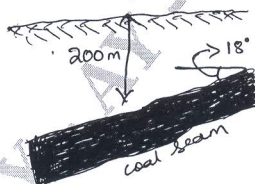

Fig.Q1(b)
- b. The following Fig.Q1(b) shows the position of the coal deposit, as a manager of mine planning department, which mode of access do you prefer to reach the seam, give reason for your answer. Explain the method in brief along with its merits and demerits.